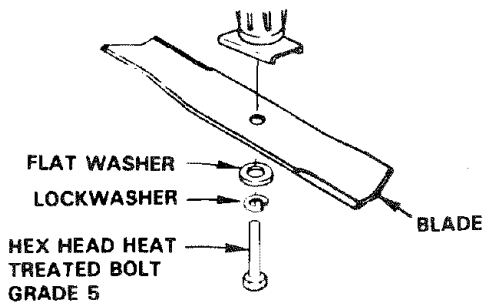

FIGURE 49
- a. Remove the hex head bolt, lockwasher and flat washer (Fig. 49).